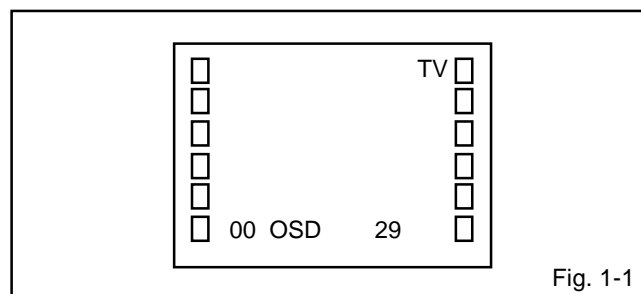

Fig. 1-1
1. In the condition of NO indication on the screen. Press the VOL. DOWN button on the set and the Channel button (9) on the remote control for more than 1 second to appear the adjustment mode on the screen as shown in Fig. 1-1.
4. Activate the adjustment mode display of Fig. 1-1 and press the channel button (01) on the remote control to select "CUT OFF".
4. Activate the adjustment mode display of Fig. 1-1 and press the channel button (12) on the remote control to select "R. BIAS".
10. If the picture is too much green. Activate the adjustment mode display of Fig. 1-1 and press the channel button (28) on the remote control to select "CB PED".
12. If the picture is too much red. Activate the adjustment mode display of Fig. 1-1 and press the channel button (29) on the remote control to select "CR PED".
3. Activate the adjustment mode display of **Fig. 1-1** and press the channel button (**07**) on the remote control to select "V. SIZE".
3. Activate the adjustment mode display of **Fig. 1-1** and press the channel button (**08**) on the remote control to select "V. LINEARITY".
2. Activate the adjustment mode display of **Fig. 1-1** and press the channel button (**33**) on the remote control to select "LEVEL".
3. Activate the adjustment mode display of **Fig. 1-1** and press the channel button (**03**) on the remote control to select "H.PHASE".
1. Activate the adjustment mode display of **Fig. 1-1** and press the channel button (**18**) on the remote control to select "CONT. MAX".
3. Activate the adjustment mode display of **Fig. 1-1** and press the channel button (**34**) on the remote control to select "SEP 1".
4. Activate the adjustment mode display of **Fig. 1-1** and press the channel button (**34**) on the remote control to select "SEP 1".